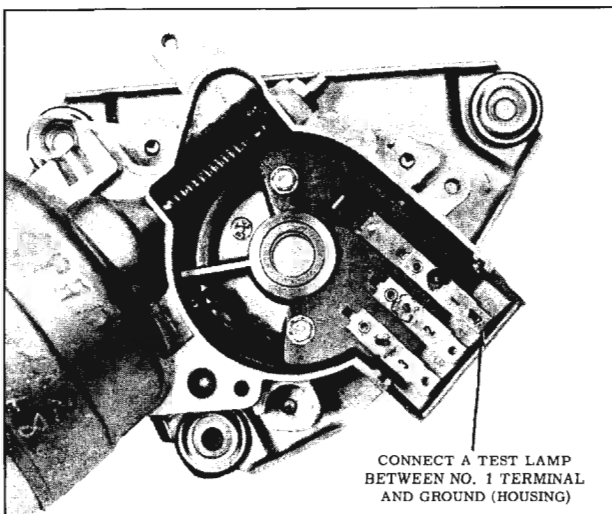

Fig. 14-177 Checking Wiper for Ground
2. Connect 12 volts to center terminal on terminal board and ground the motor housing, also connect the wiper ground strap to motor housing. Connect an ammeter in the supply line and connect jumpers as shown in Fig. 14-177.
Connect a test light as shown in Fig. 14-177. Test lamp should not light.